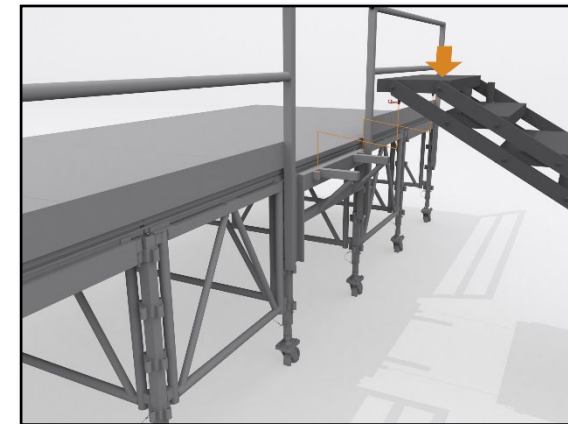

Fig. 38 – Step Installation
- 9.4.10 The top tread of the Varistairs has connections to the underside. Align and insert these into the Holes in the Sub Frame. *Fig. 38 – Step Installation*